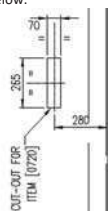

Fig.2 – cut-out left in diverter shell after removing existing seal air flange 13-0770
- Using oxy-acetylene cutting equipment (if allowed at site), or otherwise a grinder, cut off the existing seal air flange from the diverter shell and grind the welds off flush with the surface of the shell. This will leave a rectangular cut-out in the shell approximately 70mm wide x 265mm high as shown in Fig.2. below.